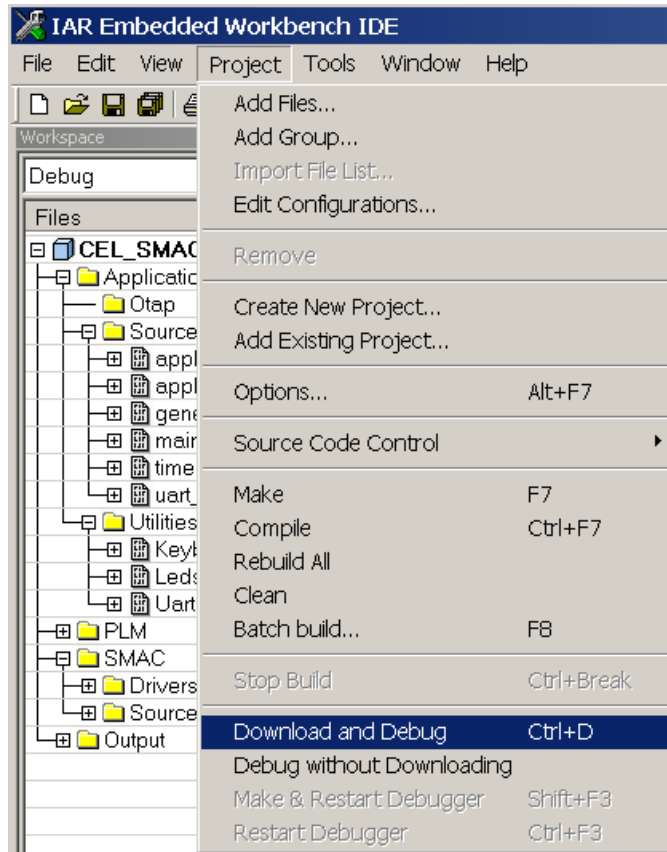

Figure 12 – Screen, IAR Workbench – Download and Debug
- Under the '**Project**' menu select '**Download and Debug**' as shown in Figure 12.